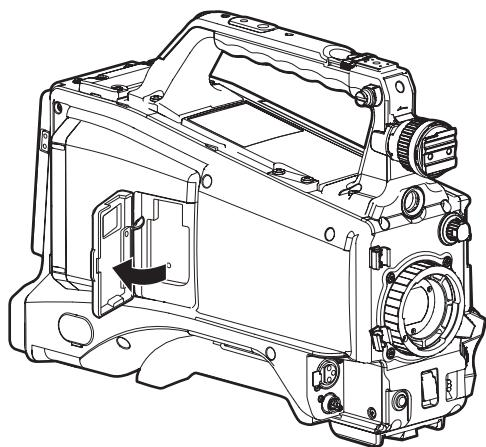

Fig. 1
**1** Open the cover. (Fig. 1)